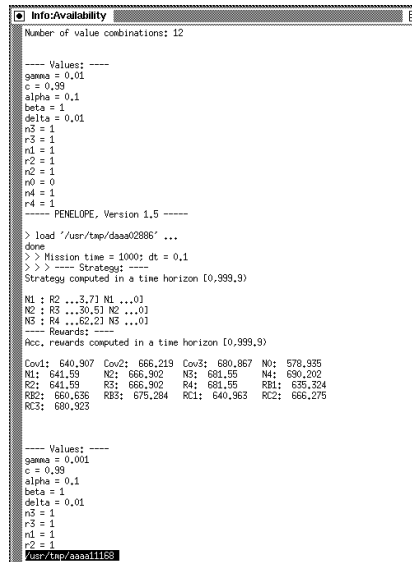

Figure 13: “Info” window.
- Info** Shows information on the performed experiment (see Fig. 13). The Info file contains: